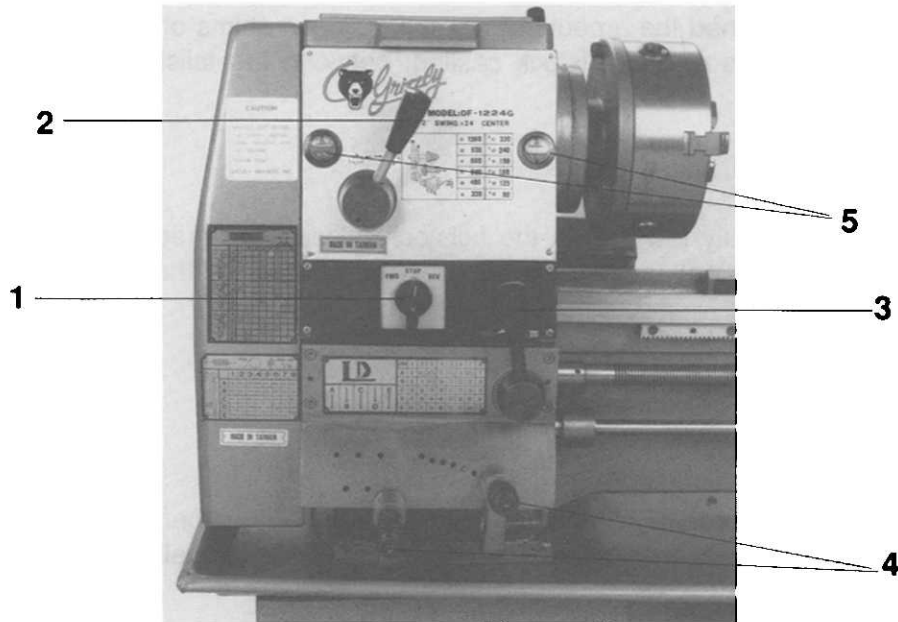

Figure 9
5. Figure 9 above shows the front of the headstock. #1 in Figure 9 is the direction switch. "Forward" means the spindle will turn clockwise as viewed from the end gear. "Reverse" means counterclockwise. "Stop" really means neutral; i.e., no power gets to the spindle, but that doesn't mean rotation stops immediately. **Note:** Before reversing directions, please allow the spindle to come to a full stop.
6. #2 in Figure 9 is the lever that engages the gearing that drives the quick-change gear box. This lever in the up position is neutral; shifted to the right, it will cause the carriage to move toward the work; shifted to the left, it will cause the carriage to move away from the work. **CAUTION: Although you may disengage this gear train at any time, do not engage it while the spindle is turning.**
7. #3 in Figure 9 is the lever that allows selection of either the feed rod or the lead screw for carriage movement. (The lever in step 6 automatically engages both.) Shift the lever to the right to select the lead screw, to the left for the feed rod, and leave it in the middle for neutral.
9. The levers at #4 in Figure 9 are speed selectors. When you're cutting threads, though, these levers, in conjunction with the chart on the gear case cover, select the number of revolutions the spindle will turn per inch of linear travel. The lever on the left has a range of A - E, and the right lever has a range of 1 - 8. As your selections increase from low (A and 1) to high (E and 8), the thread pitch gets finer. For example, a setting of A and 1 will move the carriage one inch for every four turns of the spindle. When set at E and 8, it will take 112 turns of the spindle to get the carriage to move one inch.
10. #5 in Figure 9 are the sight gauges for the spindle bearing oil reservoirs. Correct oil level is when the meniscus of the oil is approximately in the middle of the window.